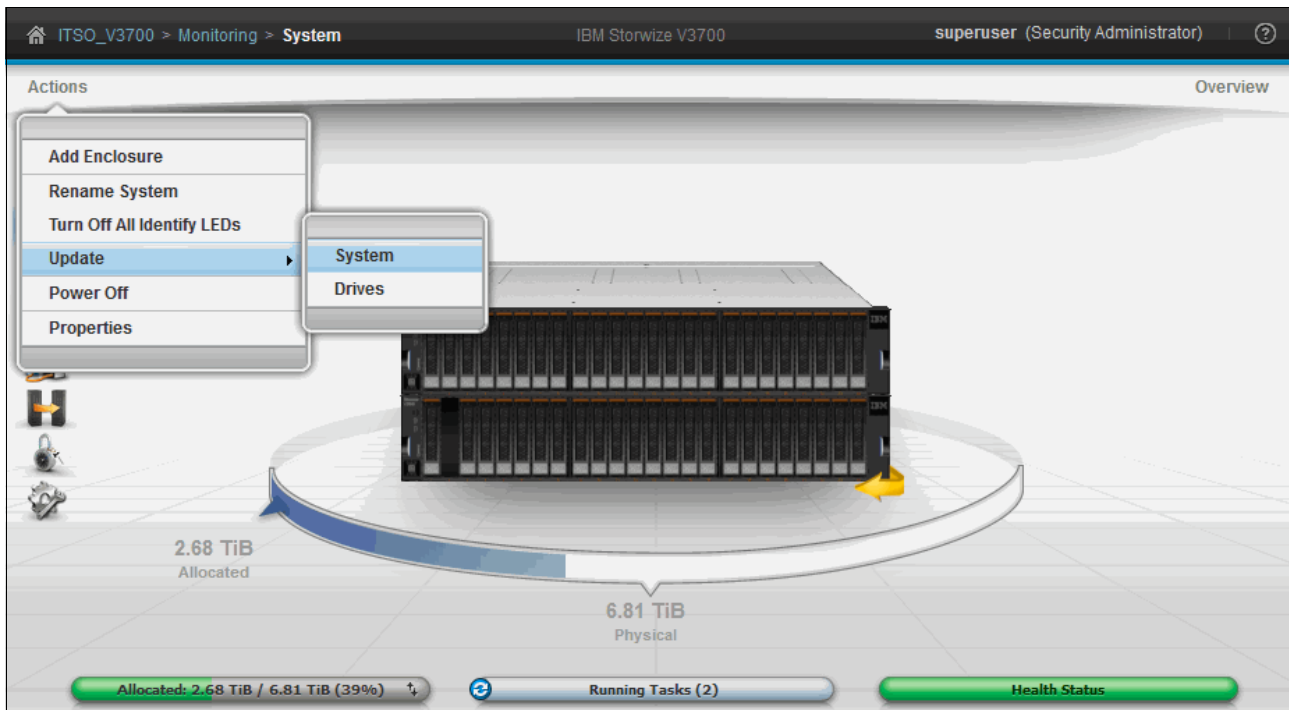

Figure 3-5 Systems pane: Actions menu
2. There are also two links at the top of the System pane. The Actions link at the upper left opens an Action menu, as shown in Figure 3-5.